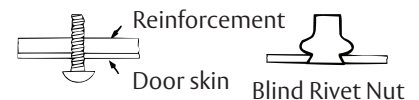

Figure 7
- Doors and Frames with walls having a structural thickness (metal skin plus reinforcement or solid hardwood) to engage less than (3) full screw threads are considered unreinforced.
- Recommended fasteners for unreinforced openings are not necessarily supplied by Corbin Russwin (Figure 7).